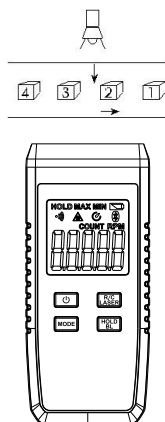

Figure 5
- 2) Fix the optical source to the location at the other side of objects and opposite to the meter. (figure5)